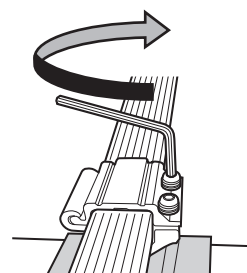

fig. 4
- Close the cap, tighten the hex bolts until the spring washer is flat and then turn hex bolt another 1/2 turn by the provided wrench. And attach the end cap that comes with the crossbar. (fig.4)